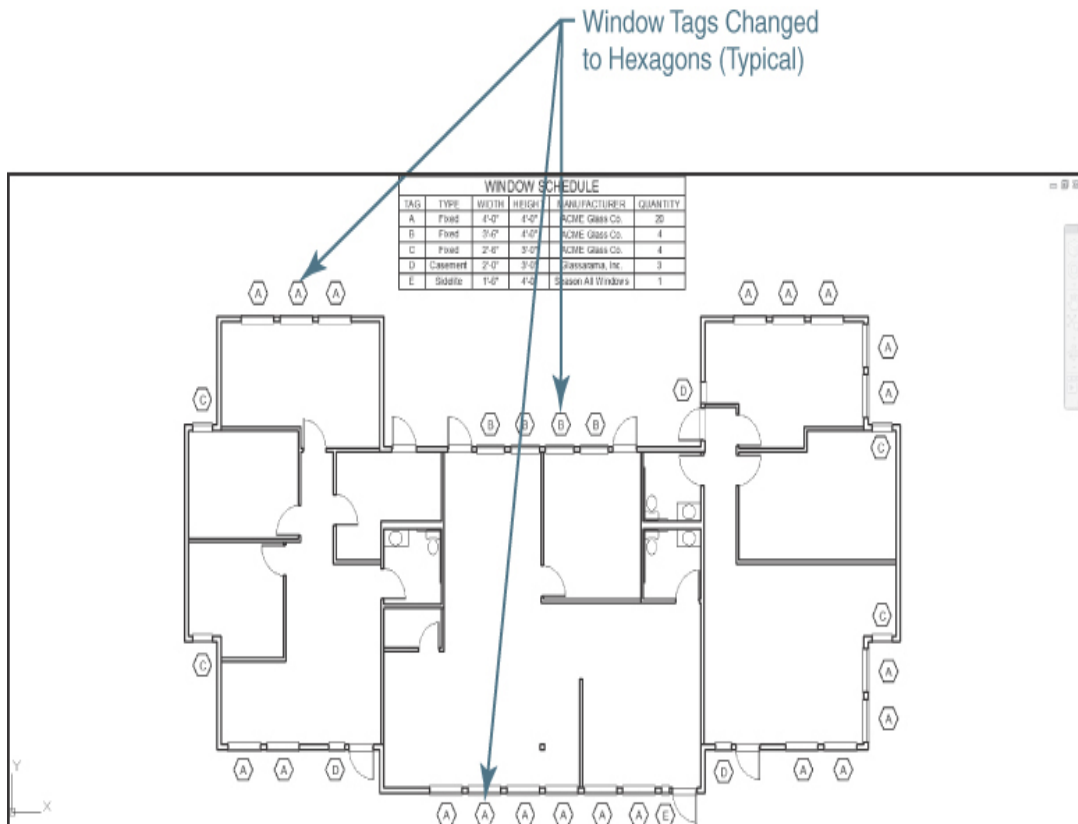

Figure 16-55
- 4 Change the window tag circle to a hexagon as shown in Figure 16-55 by erasing the circle and using the **POLYGON** command to create the hexagon.